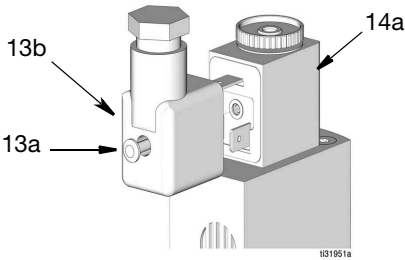

FIG. 31
4. Reconnect the DIN connector (13b) to solenoid connector (14a) (FIG. 31).
5. Tighten screw (13a) on back of mini DIN solenoid connector (13b) (FIG. 31).